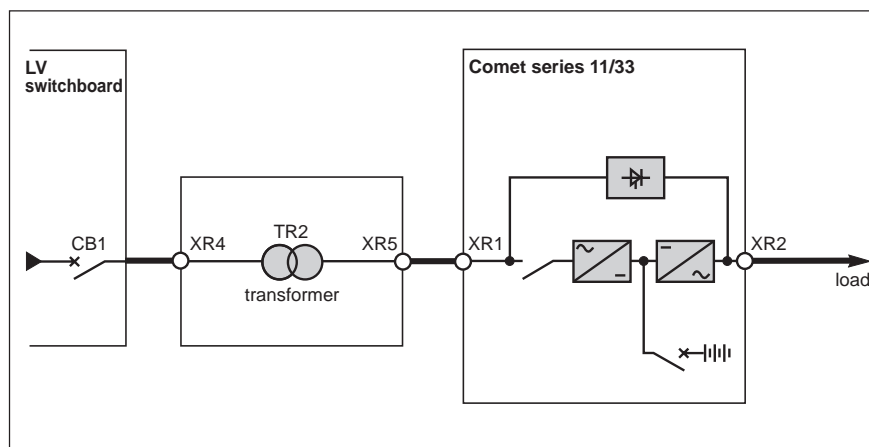

Fig. 26
- between the low voltage switchboard and the input power switch for Comet series 11 and series 33 (see figure 26);